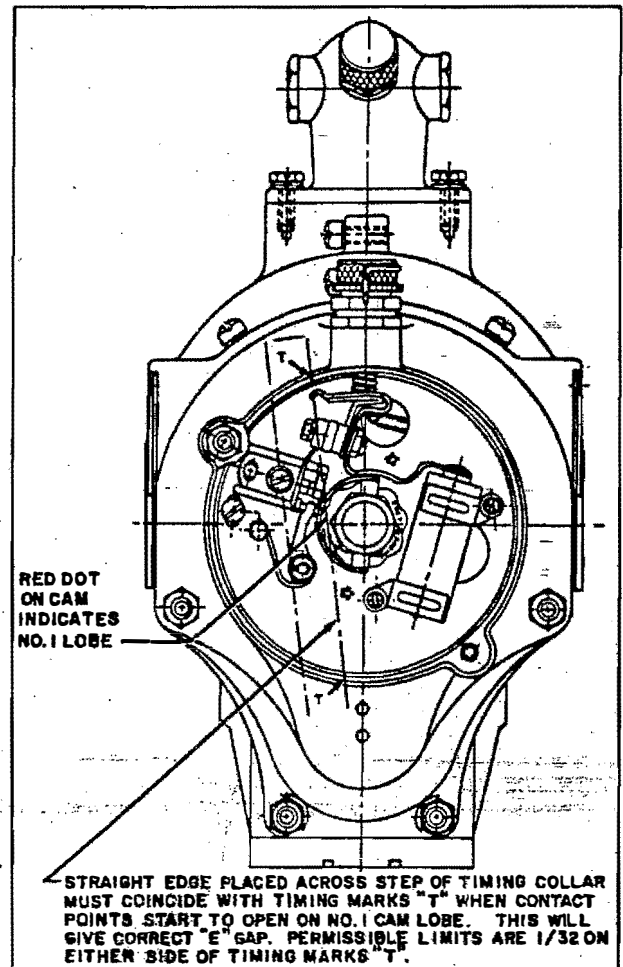

Figure 7-15. Checking Bosch Magneto
- h. Turn the propeller shaft and locate firing position as described in paragraph 7-31. At this setting the breaker points should be starting to open. Place a straight edge across the step of timing collar [Figure 7-15]; it must line up with timing marks "T" on rim or gear housing. If this is not the case, loosen the three fastening screws and turn the entire breaker plate in its slots until the marks do line up, then tighten the three screws firmly. Check the breaker point setting at this time by inserting a .009 feeler blade between the points. Jar the propeller shaft in the direction of rotation until cam follower is on the highest point of No. 1 lobe. The feeler should just become free. If feeler blade indicate that the breaker point opening is other than .009 to .010, then adjust by loosening screw and moving contact bracket with point, slightly by means of eccentrically-leadud stud, until correct opening is obtained. Tighten screw firmly after the adjustment has been made.